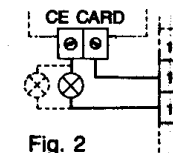

Fig. 2
3.C) Connect the 220 V lamp (s) to the two-poles terminal on this card. (as shown in figure 2)